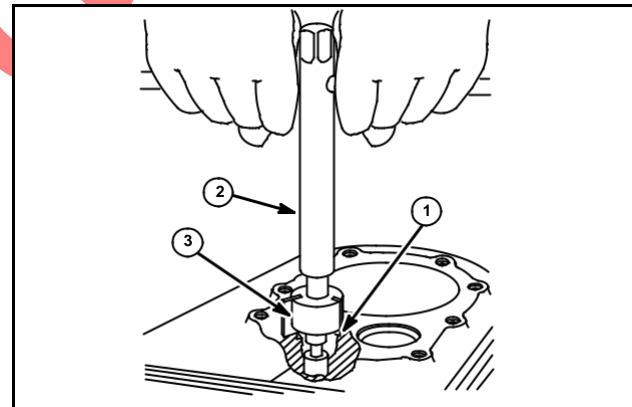

Fig. 19
4. Counterbore cylinder by hand until stop (3) on cutter (1) touches top of cylinder, Fig. 19.